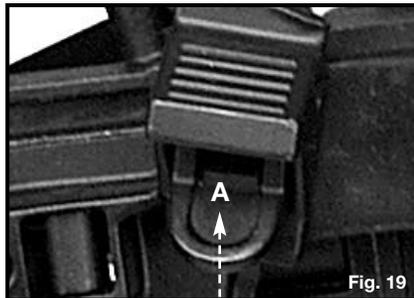
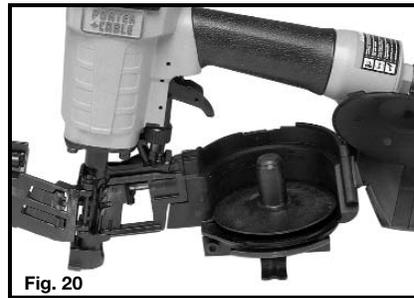

Fig. 19
Fig. 20
2. Lift latch (A) Fig. 19, open feeder cover and magazine cover (see Fig. 20).